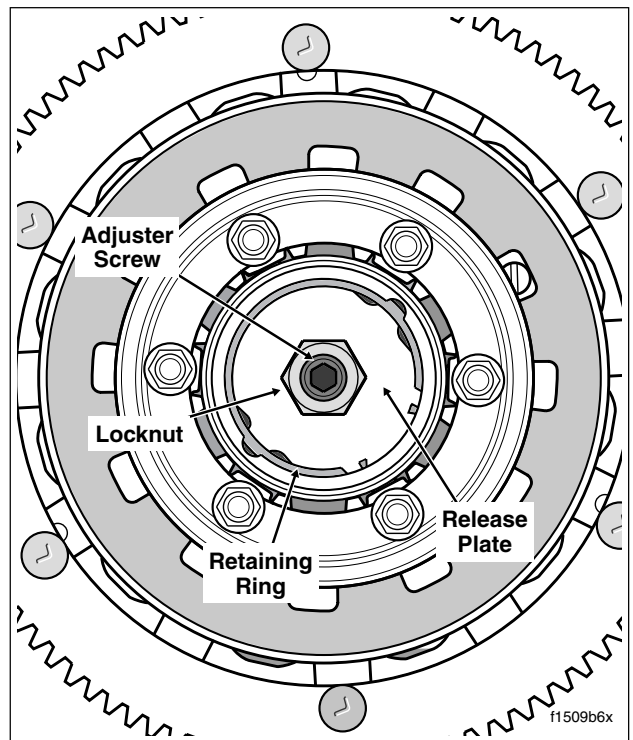

Figure 6-26. Clutch Hub Release Plate Assembly
10. Remove retaining ring and pull release plate (with locknut and adjuster screw) from clutch hub. See Figure 6-26.